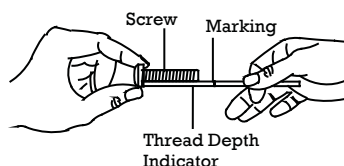

Figure 2
- Step 2.** Using a pencil, mark the depth of the thread insert on the thread depth indicator (Figure 2).
If your selected screw is longer than the marking on the thread depth indicator, do not use this screw. The screw length must not bypass the marking. If so, select another screw size (Figure 2 and 3) until you find the screw that comes closest to your mark without going past the marking.